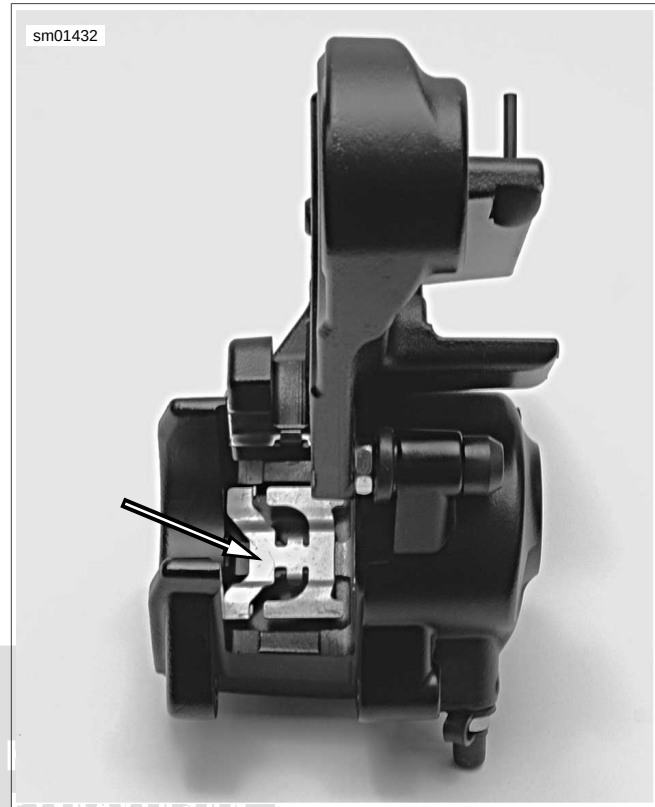

Figure 1-28. Rear Caliper Pad Spring
- See Figure 1-28. When replacing rear brake pads, make sure pad spring does not become dislodged and fall out.
- Pad spring orientation must match Figure 1-28.